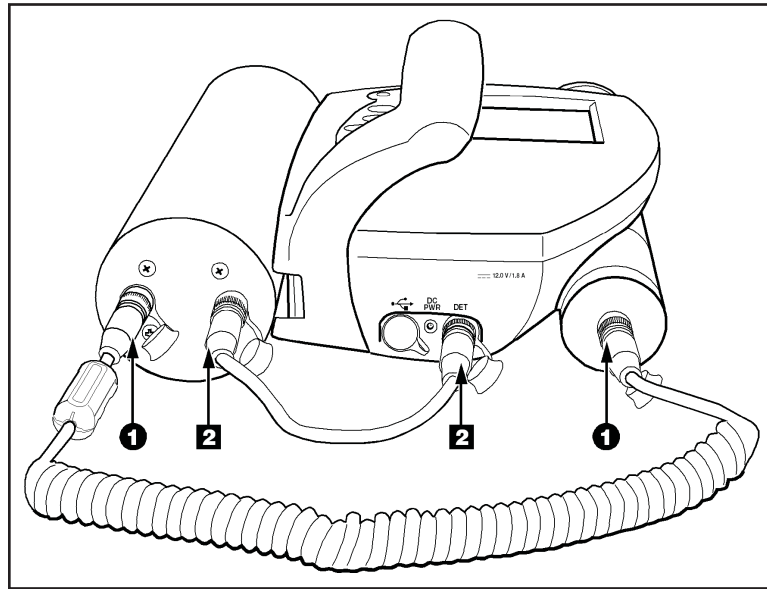

Figure 95 Cabling for Both Probes
2. Connect the other end of the coiled cable to the single connector on the Gamma Probe ❶.
3. Connect the short cable between the Neutron Probe’s INST connector ❷ and the InSpector’s DET connector ❷ (Figure 95).